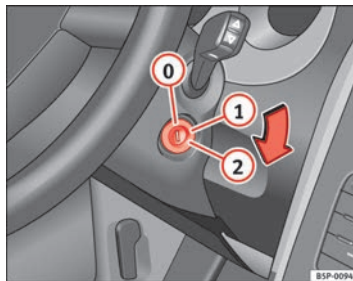

Fig. 136 Ignition key positions
In this position ⇒ Fig. 136 the ignition and the engine are OFF and the steering may get locked.
- Turn the ignition key to position ⇒ Fig. 136 ①. The warning lamp  will light for engine pre-heating.
- When the lamp turns off, turn the ignition key to position ② to start the engine. Do not press the accelerator.
- Turn the ignition key to position ⇒ Fig. 136 .